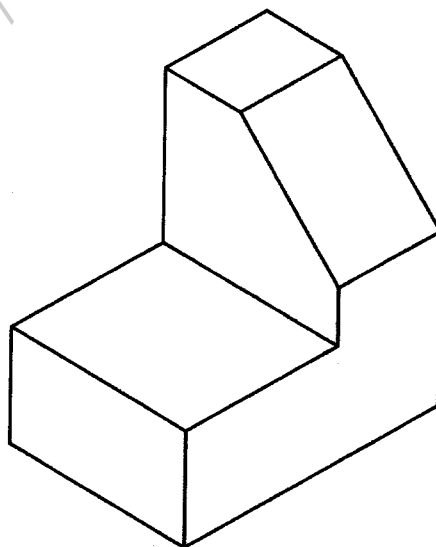

Figure 1
- 4 **Figure 1** shows a simple shaped block drawn full size in isometric projection.